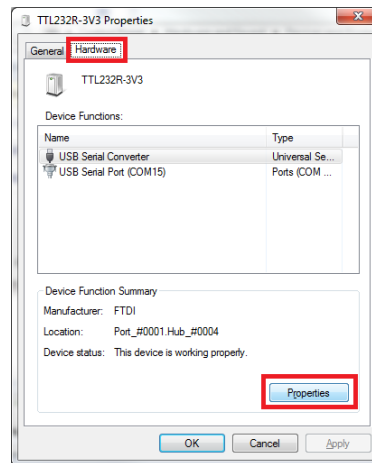

Figure 2-5. Hardware Properties Button
5. Enter the **Hardware** tab and click the **Properties** button, shown in Figure 2-5.